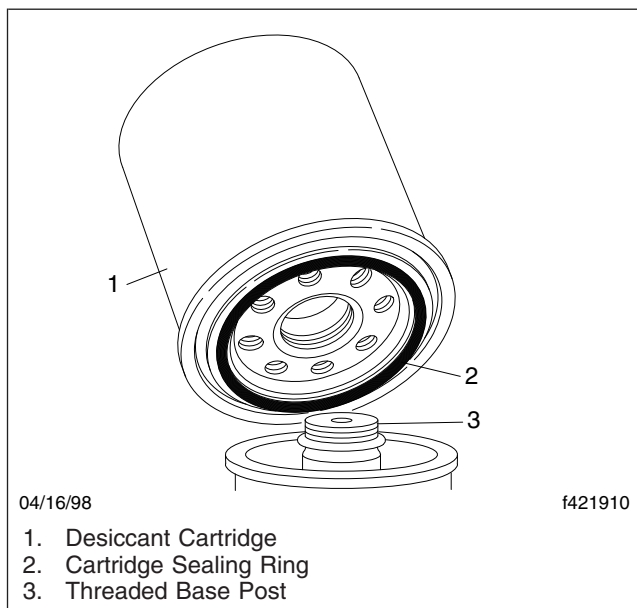

Fig. 3, Desiccant Cartridge Replacement
3. Using a strap wrench or equivalent, loosen the desiccant cartridge. Spin the cartridge off by hand and discard it. See Fig. 3.